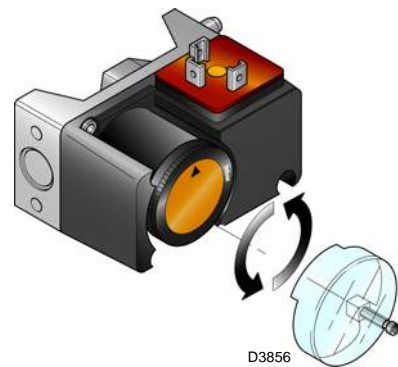

Fig. 33
- Adjust the maximum gas pressure switch (Fig. 33 at page 32) to the end of the scale.
Adjust the maximum gas pressure switch (Fig. 33) after having performed all other burner adjustments with the maximum gas pressure switch set to the end of the scale.